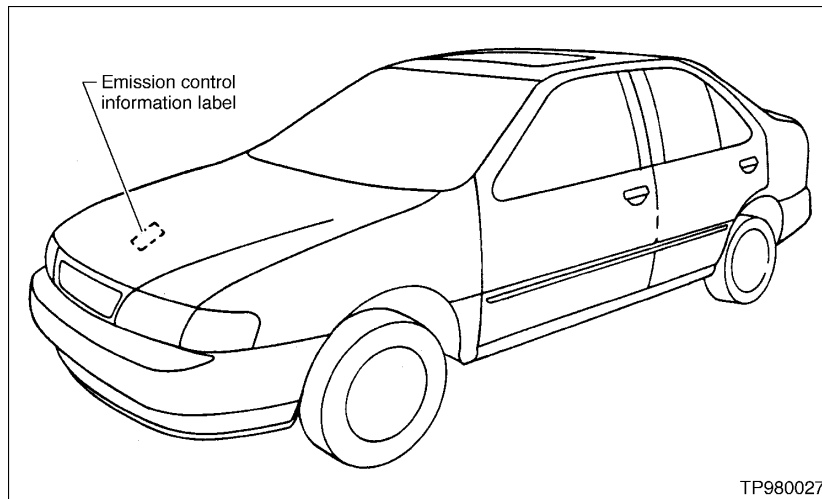

Figure 9
- ⇒ Check the under hood emissions label on Altima to determine the emissions certification for the vehicle being inspected (refer to Figure 9).